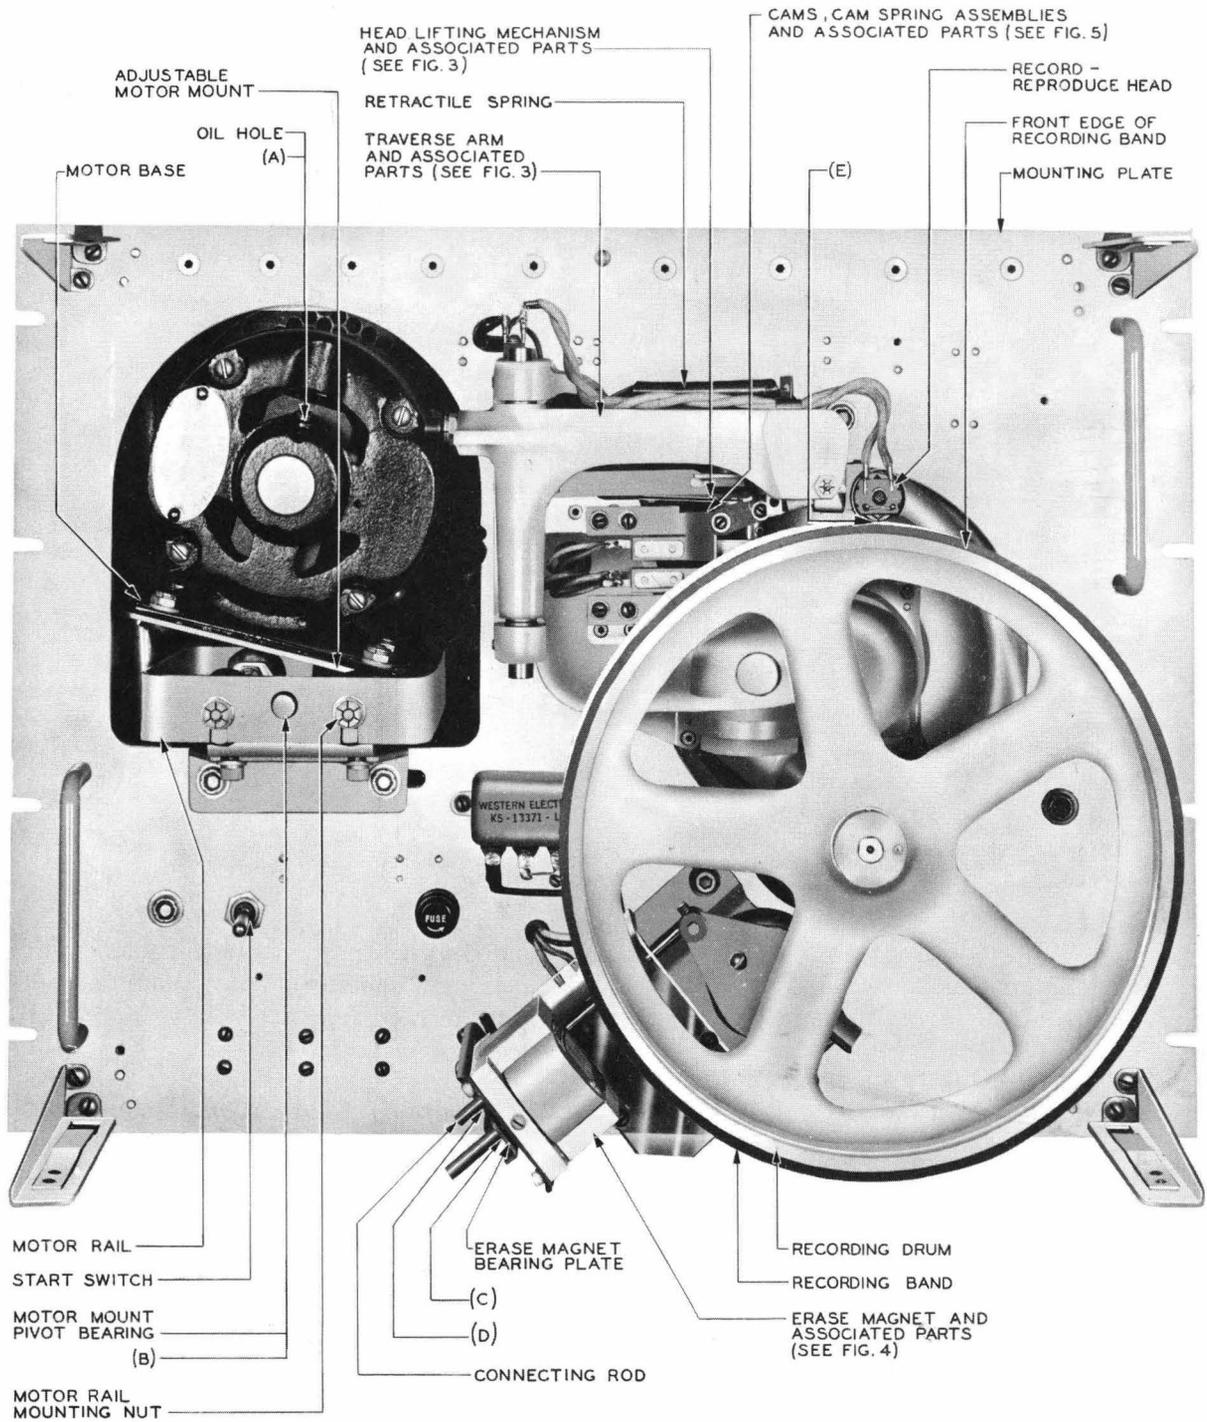

Fig. 1 - KS-12055, L4 and L6 Recorder-Reproducers - Front View (L4 shown)
(1) Fig. 1(A) and 2(A) — Three drops to each motor bearing.
(2) Fig. 1(B) and 2(B) — Three drops to each motor mount pivot bearing, applied between the collars and the motor rail.
(3) Fig. 1(C) and (D) — One drop each to the erase magnet guide rod bearing and the erase magnet connecting rod bearing.
- (b) **Motor Mount Pivot Bearings—Fig. 1(B) and 2(B):** Three drops of KS-16326 L1 oil to each motor mount pivot bearing to prevent wear and squeaks.
- (c) **Erase Magnet Rod Bearings—Fig. 1(C) and (D):** One drop of KS-16326 L1 oil to
(i) **Recording Band—Fig. 1:** On machines not equipped with a recording band wiper-lubrication assembly, SF-1147 silicone fluid lubricant shall be applied to the recording band at least once a month in accordance with 3.01(c). The band
shall be sufficiently lubricated when the entire surface area is uniformly wet and shiny. Periodic manual lubrication of recording bands is not required on machines equipped with a recording band wiper-lubrication assembly. The felt wiping pad [Fig. 1(F)] and the silicone fluid in the reservoir (slide) on the wiper assembly should be inspected once monthly to ensure that the fluid is free of visible contamination. Proper positioning of the wiper assembly shall be maintained so that the felt wiping pad fits snugly with *light pressure* against the magnetic recording band. Ensure that no metallic portion of the wiper assembly comes in contact with the recording band. When the drum is rotating, silicone fluid shall be uniformly distributed over the entire
2.25 Freedom of Movement of Adjustable Motor Mount: Fig. 1(B) and 2(B) — The adjustable motor mount shall move freely on its bearings.